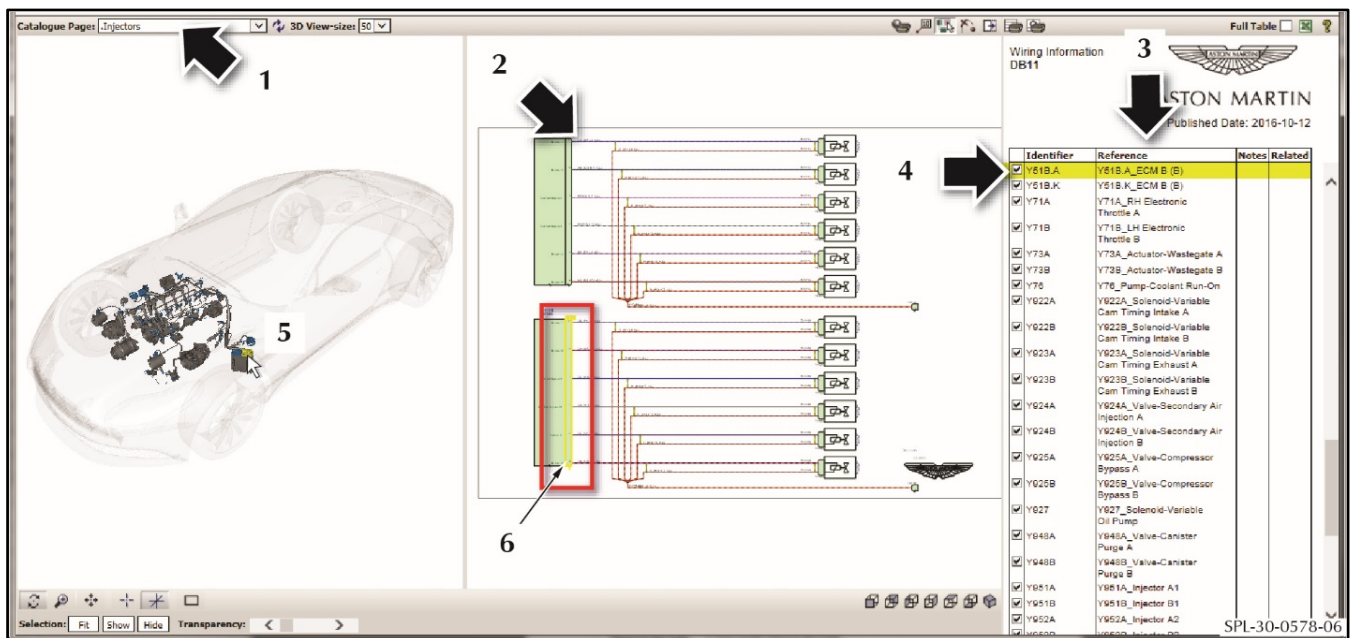

Figure 4
Select an electrical system page from the “Catalogue Page” drop down menu (1) (refer to Figure 4). You will now see the wiring diagram (2) for the system and a list of the components (3) in that system.